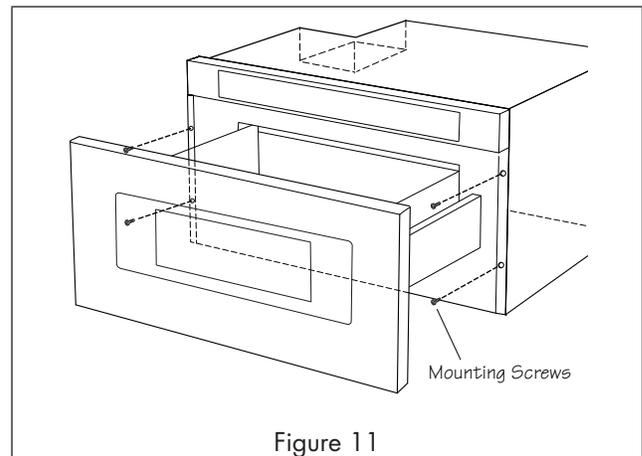

Figure 11
3. Slide the drawer all the way until the mounting flange is flush with the face of the cabinet. See Figure 11.
4. Open the drawer. Using the 4 holes on the drawer as a template, pre-drill the cabinet using a 1/16" bit. See Figure 11.
6. Open the drawer. Using the 4 holes on the drawer as a template, pre drill the cabinet using a 1/16" (1.57 mm) bit. See Figure 11.